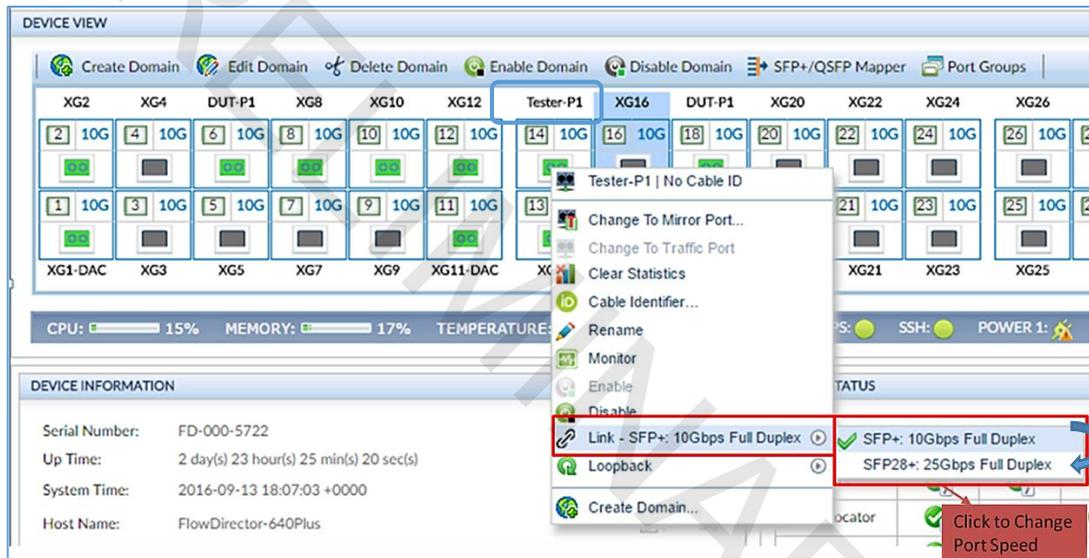

Figure 17: Changing the port speed.
4. Select **Link..** and click the desired port speed from the secondary menu, as shown in the figure 17 below.